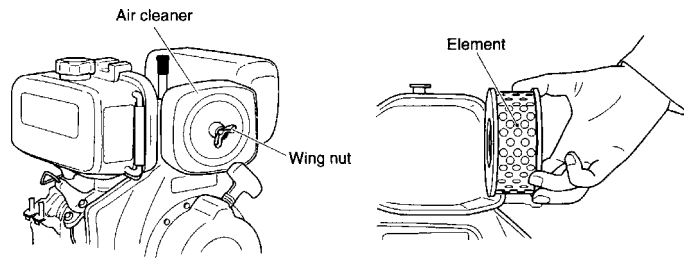

Figure 24. Engine Air Filter and Element
2. To clean or replace air filter loosen the wing nut on the air filter housing (Figure 24) remove the cover and take out air filter cartridge. If only cleaning of the air filter is desired blow through the air filter cartridge from the inside, moving a jet of dry compressed air up and down until all dust is removed.